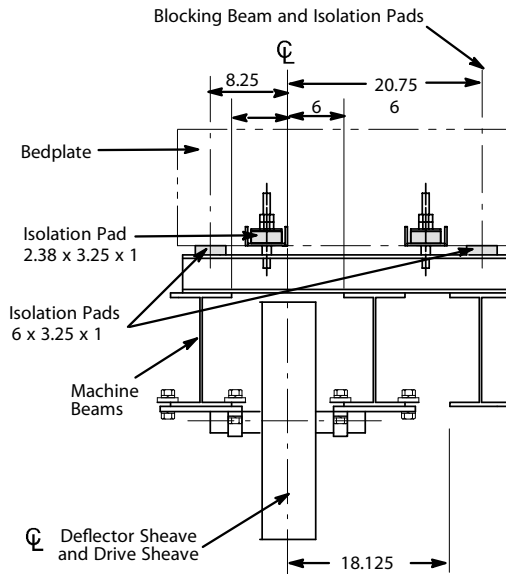

Figure 11 - Aligned Deflector Sheave
6. When the deflector sheave is plumb, and in true alignment with the drive sheave, tighten all of the connections. See Figure 11 on page 21.